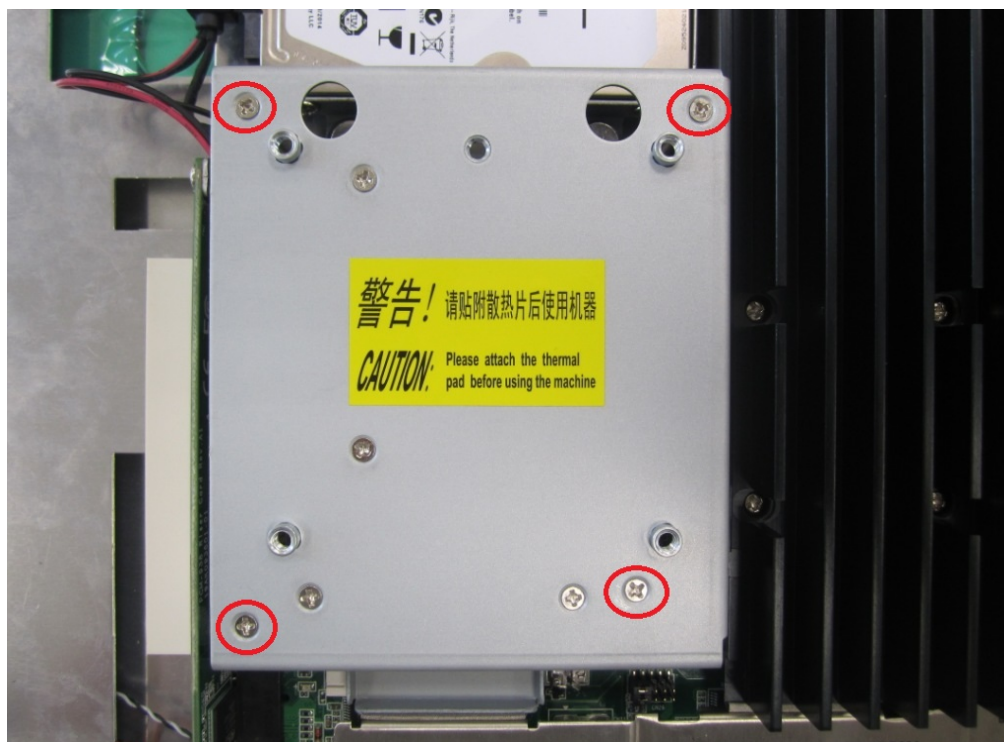

Figure 2.9
2. Remove the four screws (circled in red) to remove the VESA mount plate (see Fig. 2.9).